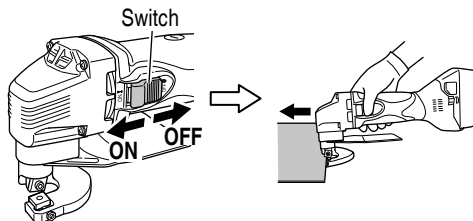

Fig. 8
1. Switch the unit on. (Fig. 8)
2. Lightly place the application tool on the material and move the application tool forward at a pace where the movement isn't slowed. (Fig. 8)
When cutting thin panels, level the unit horizontally, as shown in Fig. 8.
To facilitate smooth cutting of thick panels, if the cut-off side goes toward the left, (Fig. 8) raise the rear of the unit slightly. And if the cut-off side goes toward the right, lower the rear of the unit slightly.